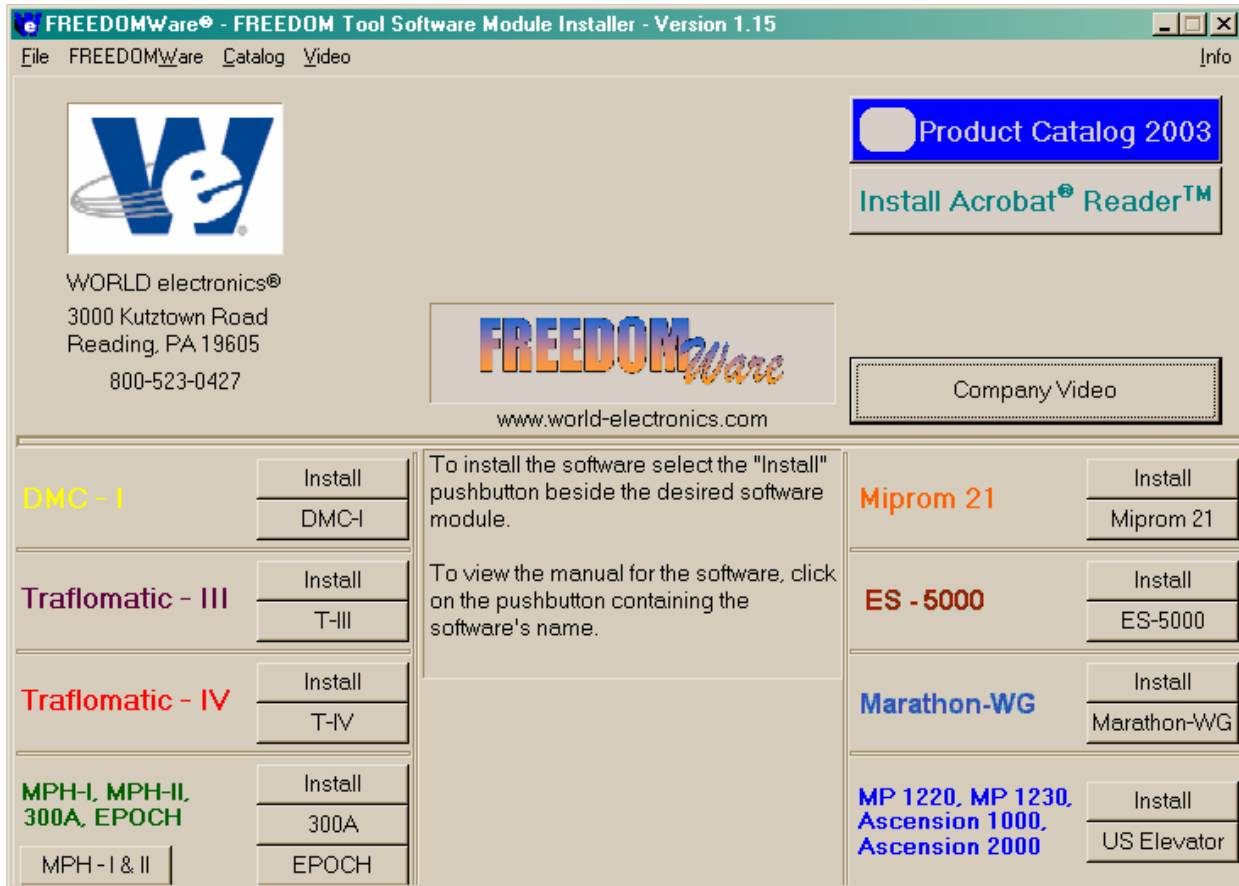

Figure 4
1. Insert the FREEDOMWare Installation CD into the Notebook PC's CD-ROM Drive. After approximately 10 seconds a window will appear titled **FREEDOMWare – FREEDOM Tool Software Module Installer**. Please refer to Figure 4.